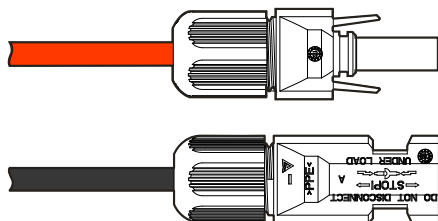

Figure3-20 Tighten the sealing nuts
- Step 4 Tighten the sealing nuts of positive connector and negative connector to the corresponding insulation crusts respectively, as shown in Figure3-20.